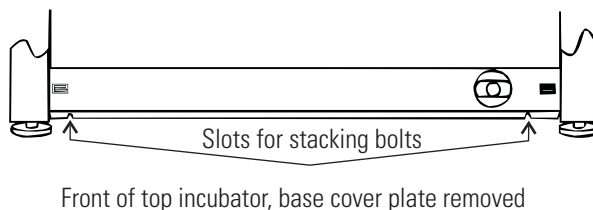

Figure 1-3. Stacking Bolt Slots
2. Note the two slots in the base of the incubator which accommodate the stacking bolts. Refer to Figure 1-3.